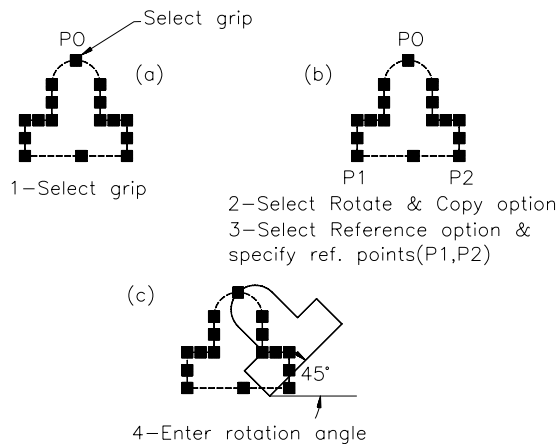

Figure 6-12 Using the **Rotate** mode to rotate by giving a reference angle
5. Make another copy of the object, as shown in Figure 6-12(a). Select it, and then select the grip at point (P0). Access the **Rotate** mode and the copy option as described earlier. Select the **Reference** option from the shortcut menu, enter **R** at the prompt sequence, or select the **Reference** option from the dynamic preview. The prompt sequence is given next.
In response to the **Specify reference angle <0>**: prompt, select the grips at points (P1) and (P2) to define the reference angle. When you enter the new angle, AutoCAD will rotate and insert a copy at the specified angle [Figure 6-12(c)]. For example, if the new angle is 45-degree, the selected objects will be rotated about the base point (P0) so that the line P1P2 makes a 45-degree angle with respect to the positive X axis.